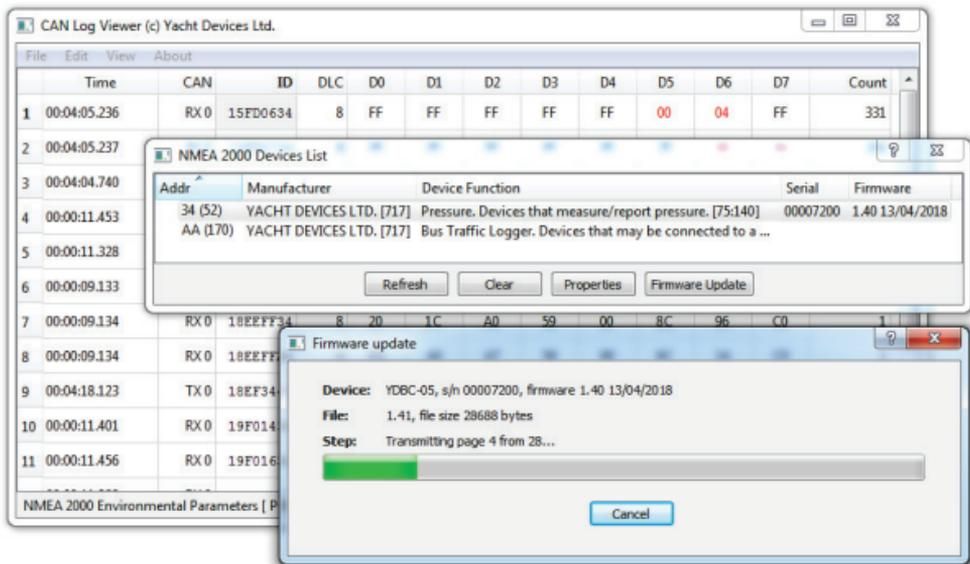

Figure 1. Firmware update of Barometer
2. Click the “Refresh” button (see Figure 1 at the next page) in the opened window and wait for the Device to appear in the list.